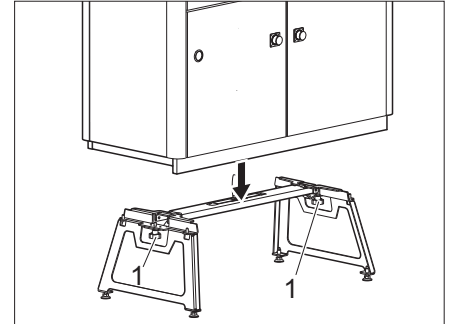

Fig. 63 Placing the kitchen unit on it
- Place the kitchen unit on the erected base frame (Fig. 63).
- Secure the kitchen unit and base frame with the 2 star screws (Fig. 63,1).